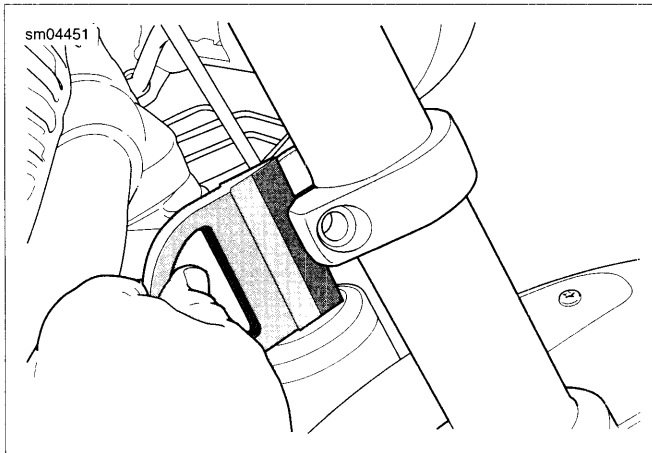

Figure 2-144. Insert Triple Tree Wedge (typical)
4. See Figure 2-144. Remove upper and lower fork bracket pinch bolts.